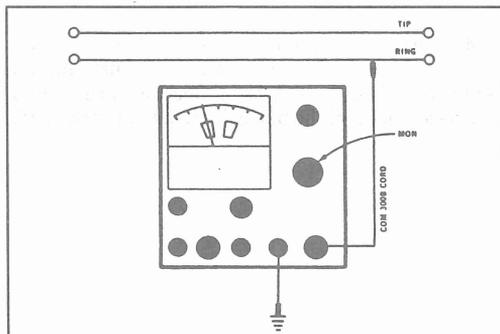

FIGURE 20
6.04 In some operations it may be desirable to only monitor the line voltage. Examples are section throws or cutovers where pairs have been previously identified and it is only necessary to determine whether a line is in use prior to cutting or swinging. This may be done by setting the Function Knob to the MON position where the pair voltage status may be visually checked on the meter (see Figure 20). In this mode of operation, there is no drain on the test set batteries.